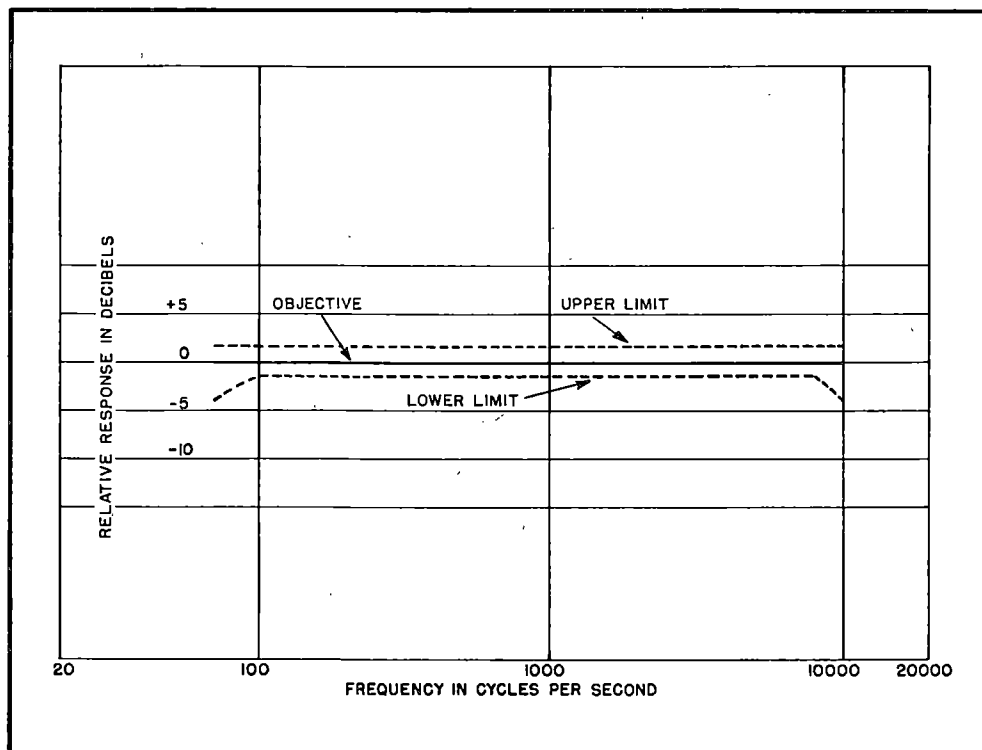

Figure 21. Amplifier Frequency Response Characteristics
e. All measurements should be made with the amplifier operating from 115-volt, 60-cycle supply, otherwise readings shown in figure 21 will be erroneous.